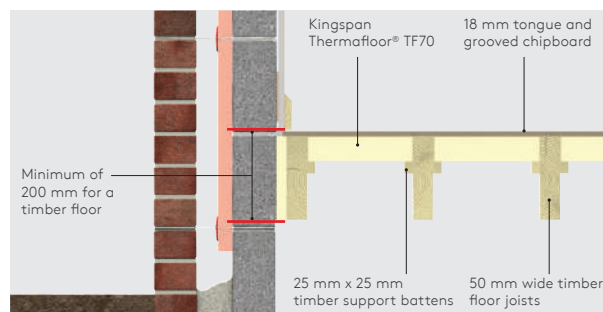

Figure 9 - Complete timber floor insulation
- In order to minimise cold bridging at the edge of the floor, the distance between the top surface of the floor insulation or perimeter insulation upstand, and the bottom of the wall insulation must be a minimum of 150 mm (see Figures 1 & 2) for a concrete floor and 200 mm for a suspended timber floor (see Figure 9). The further down the wall insulation extends past the floor insulation, the better the thermal performance of the junction between the wall and the floor.